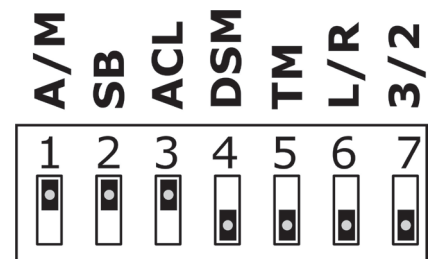

Fig. 20
- Select Dipswitch Nos.2 (SB) and 3 (AC) to the “ON” position (Figure.20)
- The Dipswitches located on the Control Board (Figure.20) enable or disable specific functionality
- Select Dip 2 (SB) to the “ON” position (Figure.20)
- TO ENABLE – select Dipswitch No.5 (SS) to the “ON” position (Figure.20)
- TO DISABLE – select Dipswitch No.5 (SS) to the “OFF” position (Figure.20)